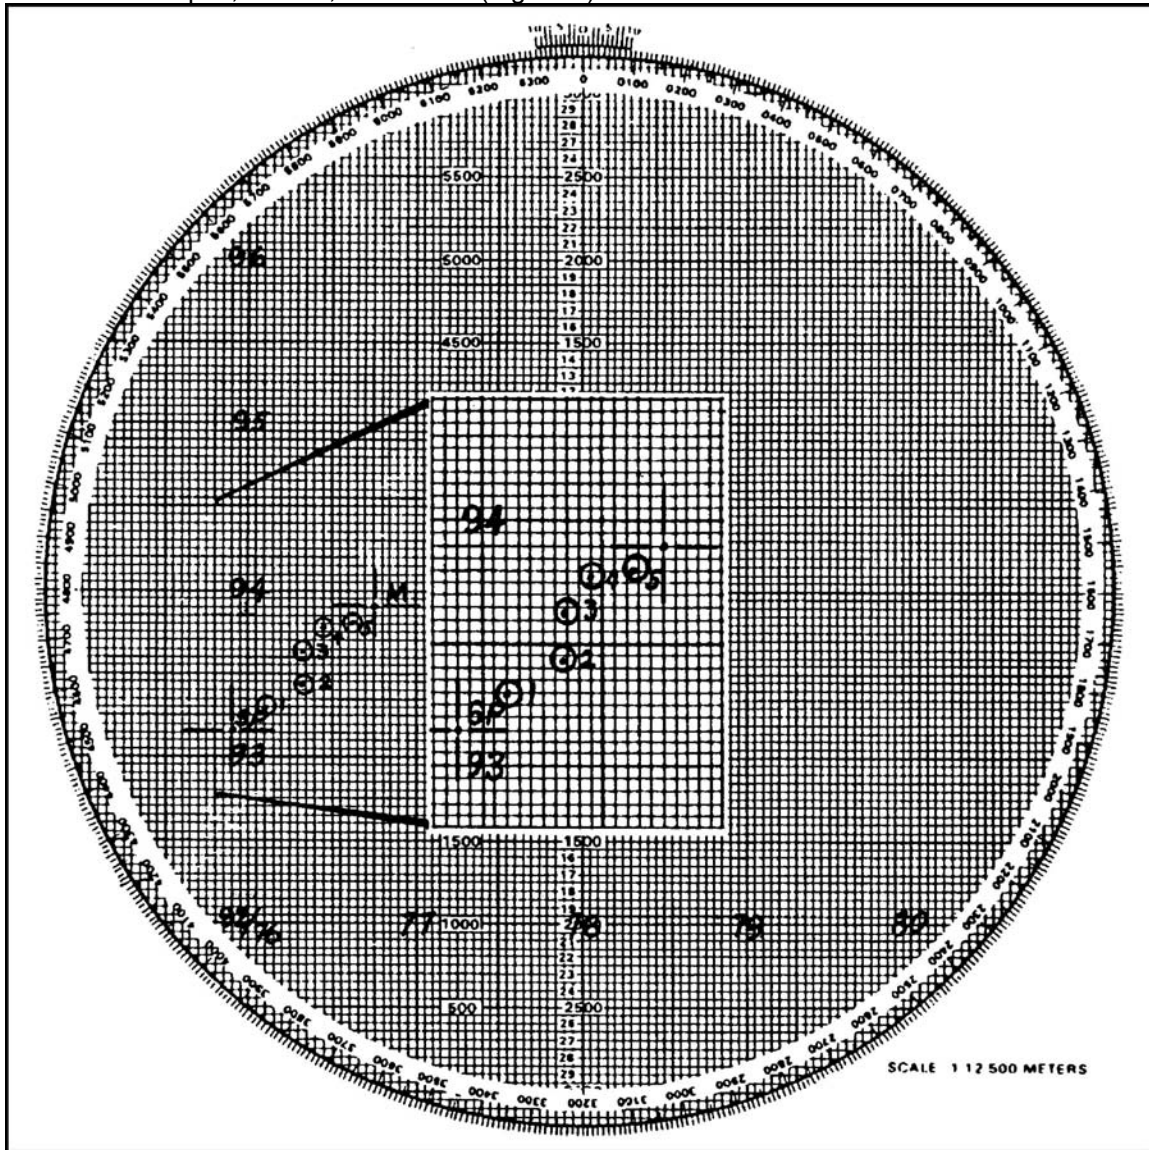

Figure 7. Plotted survey data from start point.
- d. From this point, the procedure is the same as plotting from the pivot point. Index the azimuth of the first traverse leg, go up the board the distance given for the first traverse leg, and make an accurate plot, circle it, and label it (Figure 7).
- f. When making the last plot, enclose it in a hollow cross, and label it "M." This plot is the base mortar's position (Figure 7). Determine the eight-digit grid of this point and record it on your data sheet.